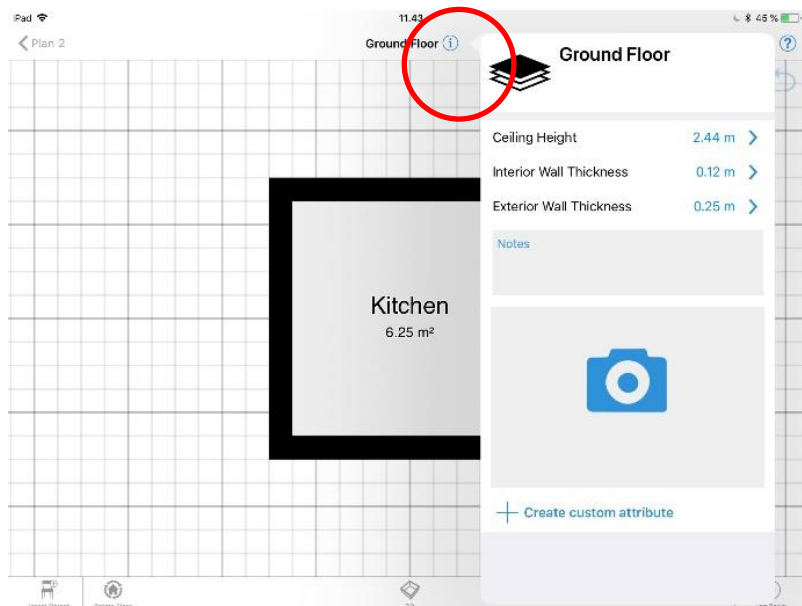

Figure 2.2 Predefined information menu
To change the predefined ceiling height and interior and external wall thickness for the project press the “information” icon in the top of the Magicplan User interface (UI) as shown in figure 2.2.